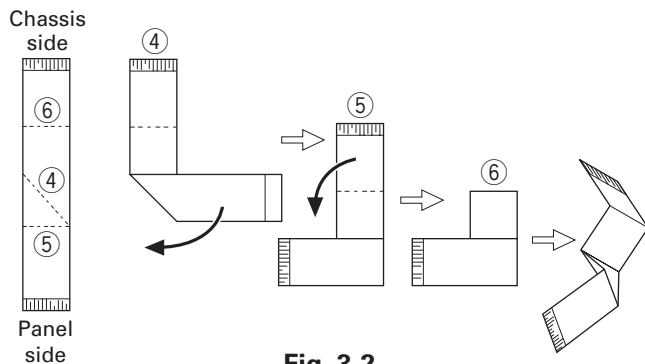

Fig. 3-2
1. Lift the two tabs of the panel on the bottom of the transceiver with a flat-head screwdriver ( ① ) and remove the panel from the chassis ( ② ).
2. Remove the flat cable from the connector (CN901) of the display unit of the panel. ( ③ )
3. Fold the black line of the flat cable (in three parts) as shown in Figure 3-2. ( ④, ⑤, ⑥ )